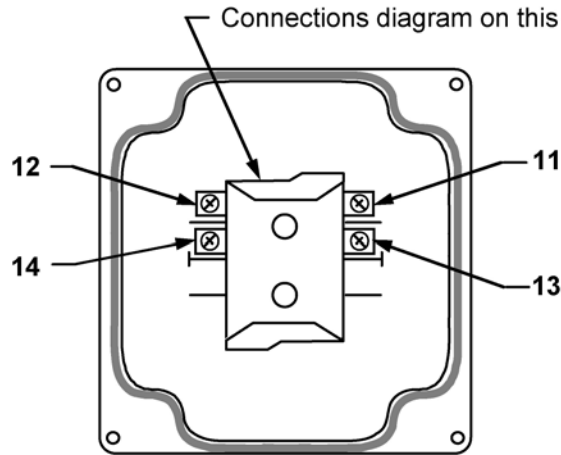

Figure 2-21. Wiring Connections in One-hand Control Switch (Switch Cover, Bottom View)
4. Using the conduit hole provided in the base of the One-hand Control, run conduit and wiring to the Operator Station, referring to Figure 2-21 for terminal locations on the bottom of the One-hand Control.
* Refer to Figure 2-21, above